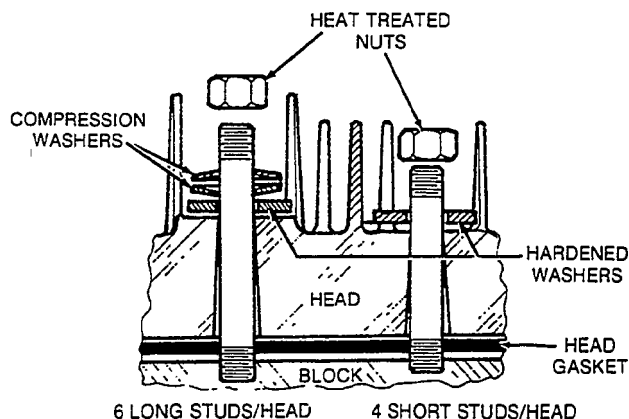

FIGURE 78. CYLINDER HEAD WITH COMPRESSION WASHERS
5. Some engines have two compression washers and one hardened washer on the long cylinder head studs (top 6 studs on each side) as shown in Figure 78. When these washers are used, they must be installed as shown. When properly installed, only the outside edges of the compression washers will be in contact with each other. Install a flat washer and nut on each of the four bottom studs.